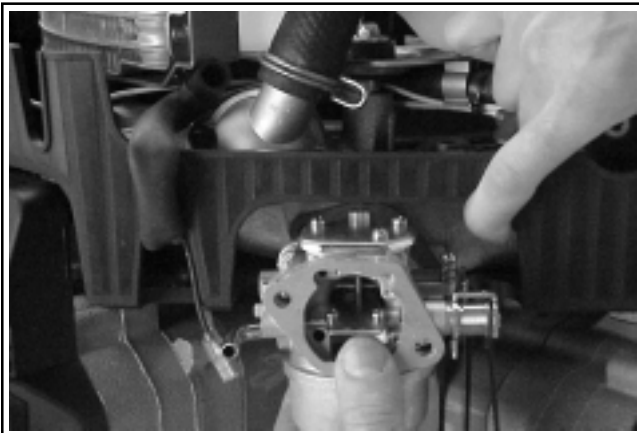

Figure 9-16. Lifting Edge of Lower Housing/ Removing Carburetor.
3. Gently lift up on the lower blower housing, directly above the carburetor, and slide the carburetor outward on the studs. See Figure 9-16.